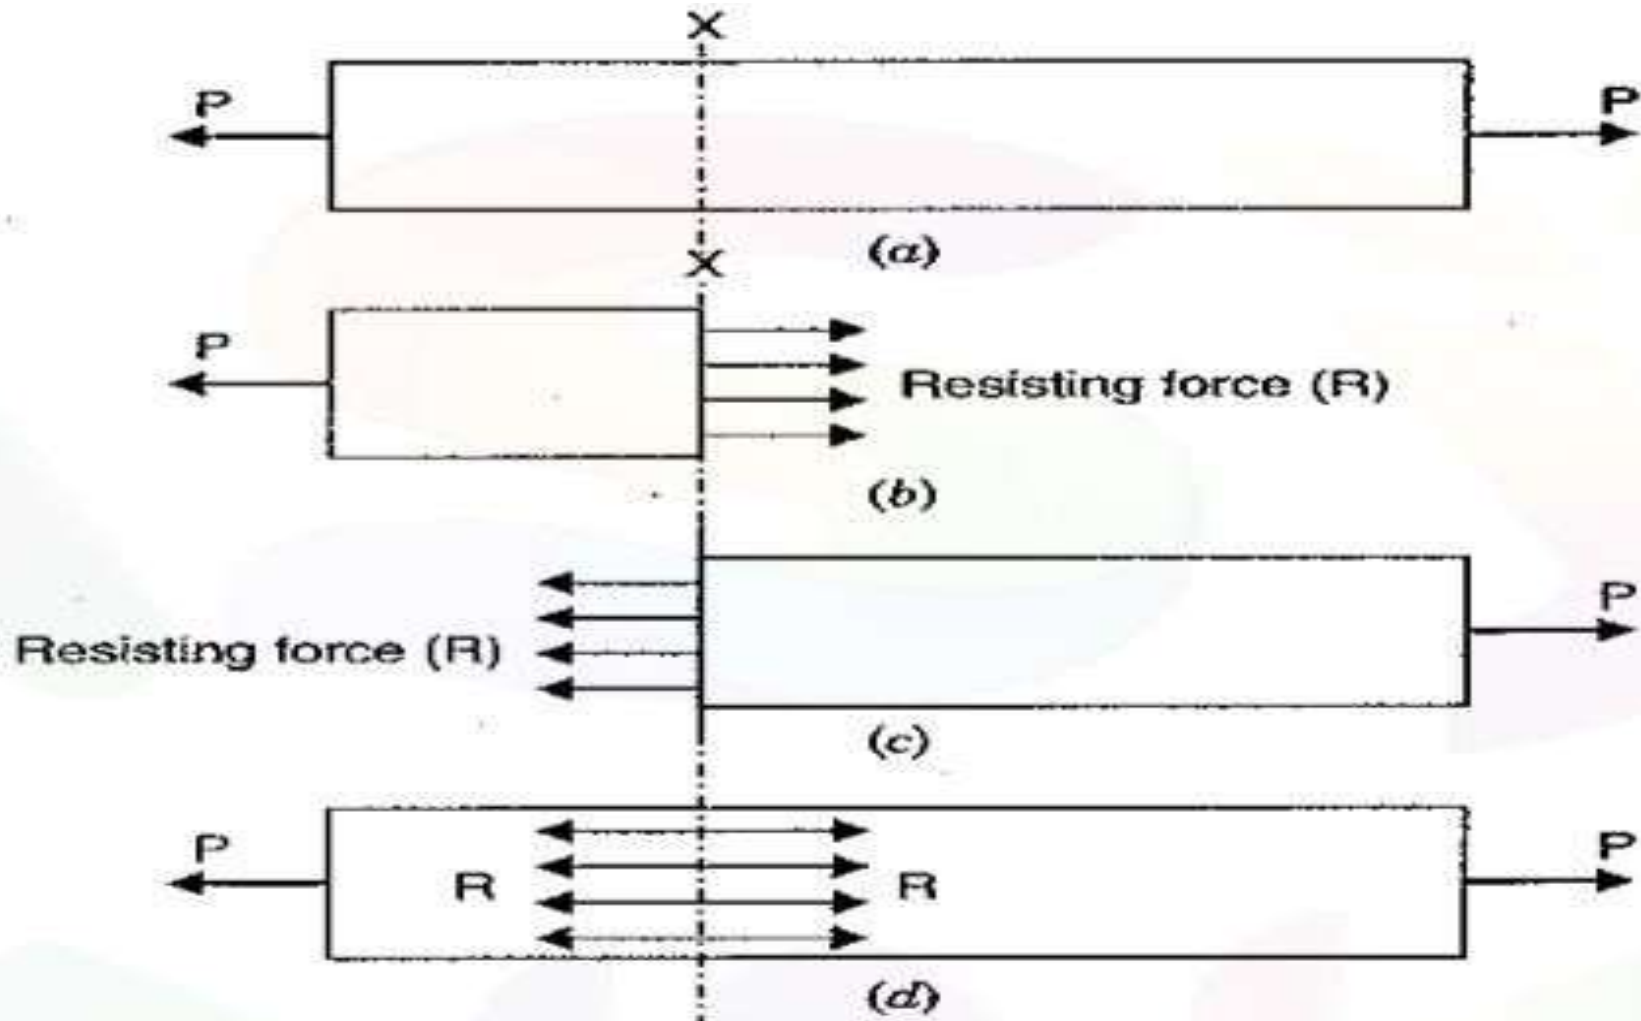

Fig. 1.1
1.4.1. Tensile Stress. The stress induced in a body, when subjected to two equal and opposite pulls as shown in Fig. 1.1 (a) as a result of which there is an increase in length, is known as tensile stress. The ratio of increase in length to the original length is known as *tensile strain*. The tensile stress acts normal to the area and it pulls on the area.
Fig. 1.1 (a) shows a bar subjected to a tensile force P at its ends. Consider a section $x-x$, which divides the bar into two parts. The part left to the section $x-x$, will be in equilibrium if $P =$ Resisting force (R). This is shown in Fig. 1.1 (b). Similarly the part right to the section $x-x$, will be in equilibrium if $P =$ Resisting force as shown in Fig. 1.1 (c). This resisting force per unit area is known as stress or intensity of stress.